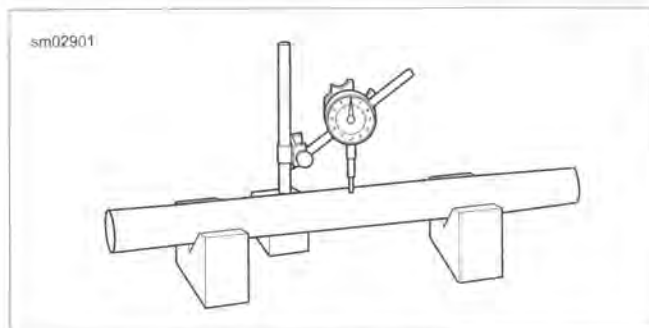

Figure 2-64. Measure Fork Tube Runout
7. See Figure 2-64. Check runout with a dial indicator.